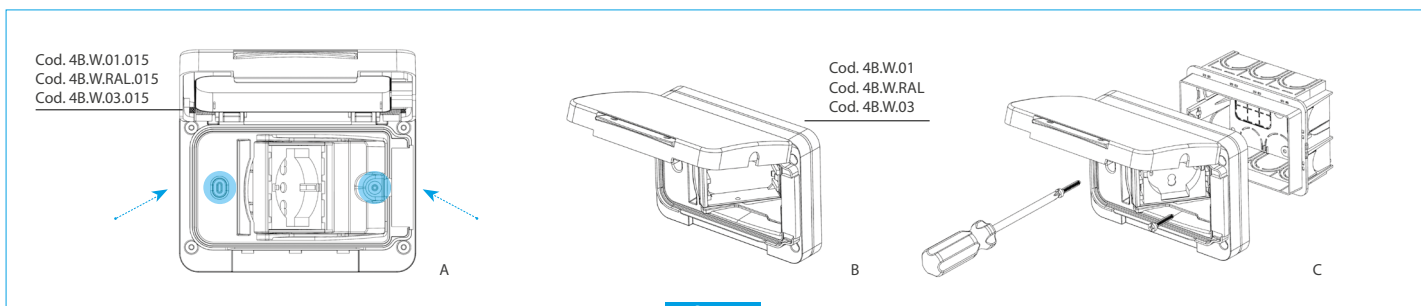

fig. 3
- Remove the pre-cut plastic covers from screw's housing, as shown in figure 3-A.
- Screw WIDE to the flush mounting box (fig. 3-C).